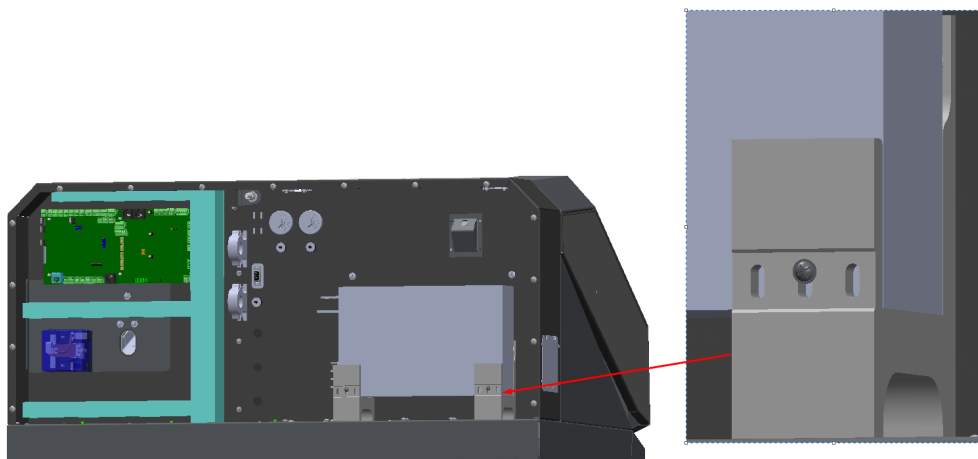

Figure 5. Фиксация блока питания
5. Secure the power supply unit to the brackets using screws (see figure 5).